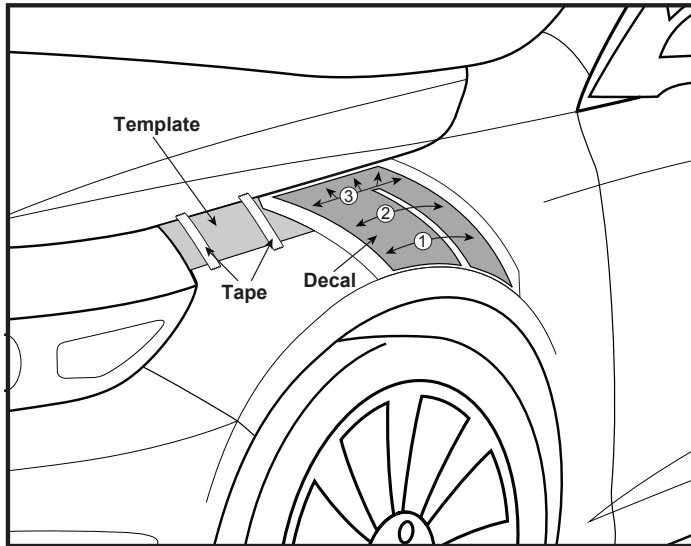

Figure 1
8. Using a plastic squeegee, press the decal into place using firm, overlapping strokes (see Figure 1 below).